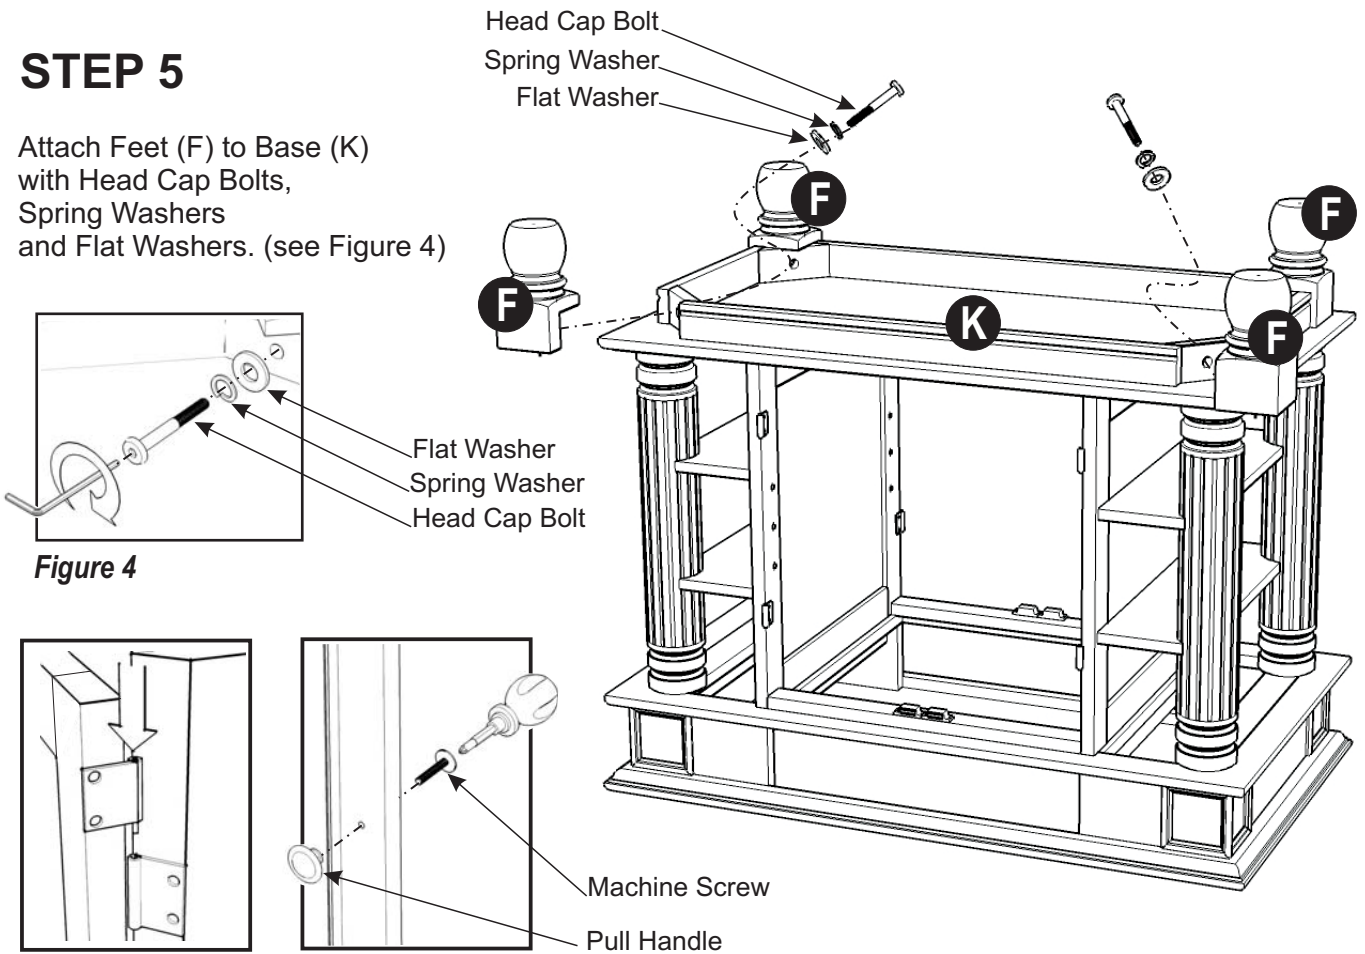

Figure 4
Attach Feet (F) to Base (K) with Head Cap Bolts, Spring Washers and Flat Washers. (see Figure 4)